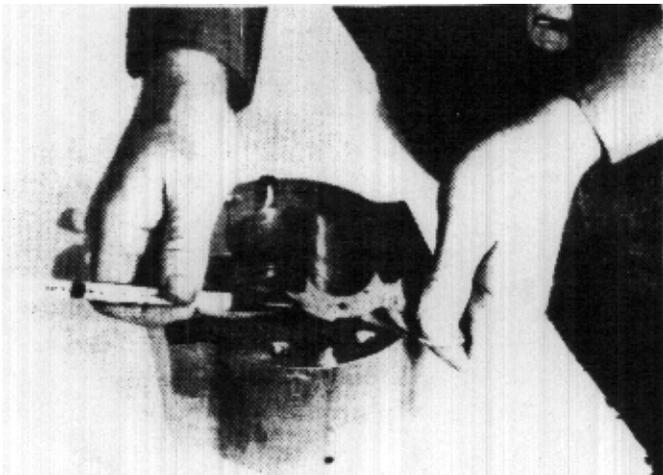

FIGURE 53
21. Place the body (2) with its solid flat end down and the mark made in Step 2 facing you.
23. Out of the group of parts from this pumping section, examine the two isolation plates 10 and 11. You will find that plate 11 has rounded edges. Install this plate on the suction side of the body with the rounded edges down. (Figure 53)